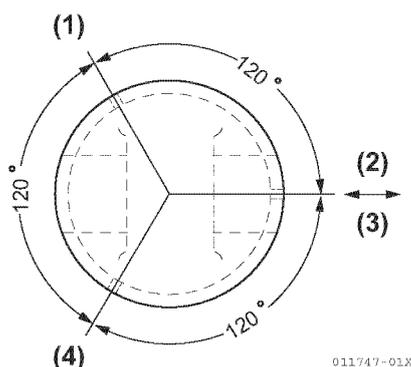
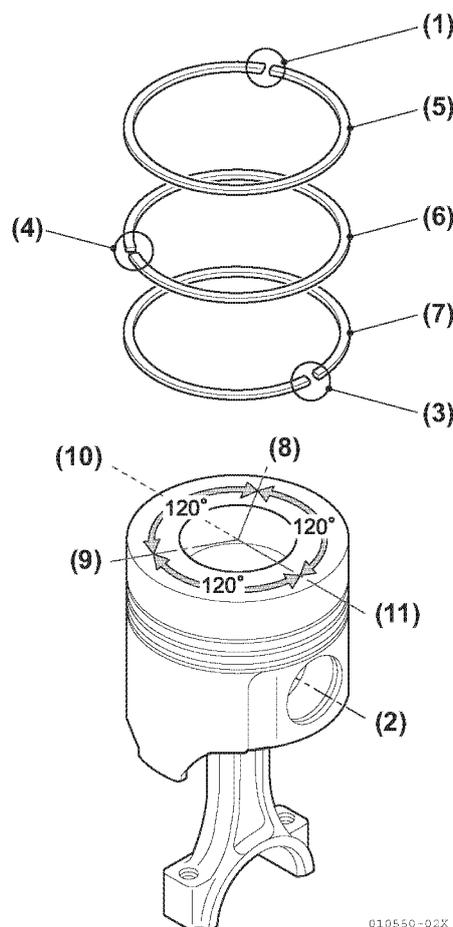

Figure 5-137
Figure 5-138
- The piston ring joints must be staggered at 120° to each other. Do not position the top ring joint in line with the piston pin (Figure 5-137) and (Figure 5-138). The coil expander joint must be opposite the oil ring joint (Figure 5-139).